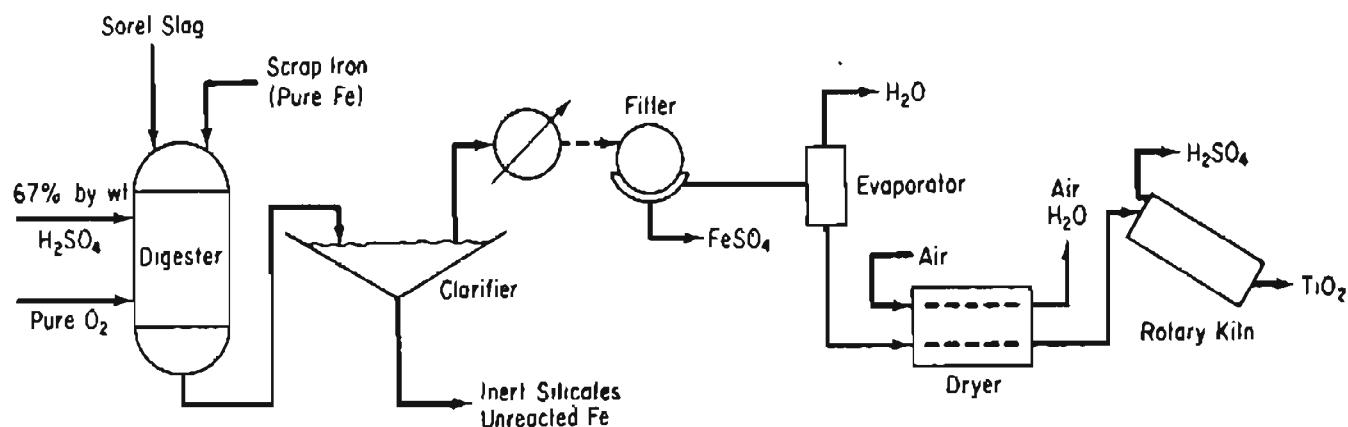

Figure P11.18
- ***11.18** The flowsheet shown in Fig. P11.18 represents the process for the production of titanium dioxide (TiO₂) used by Canadian Titanium Pigments at Varennes, Quebec. Sorel slag of the following analysis: